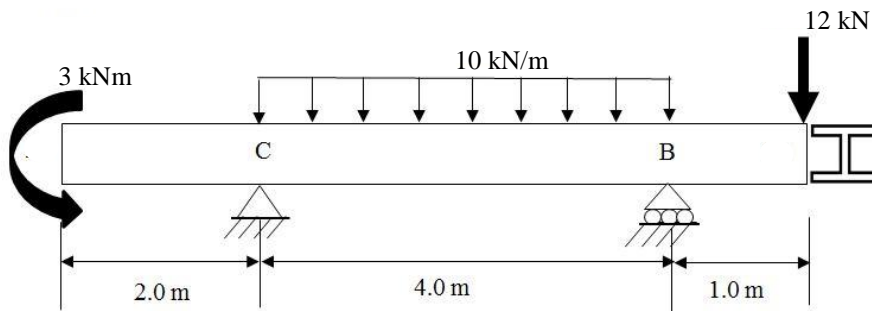

Figure 6
3. A 7.0 m long simply supported steel beam with overhang is to be designed to support the uniformly distributed load, moment and concentrated load as shown in **Figure 6**. It is given that for the rolled steel section used, $S = 90.0 \times 10^3 \text{ mm}^3$.